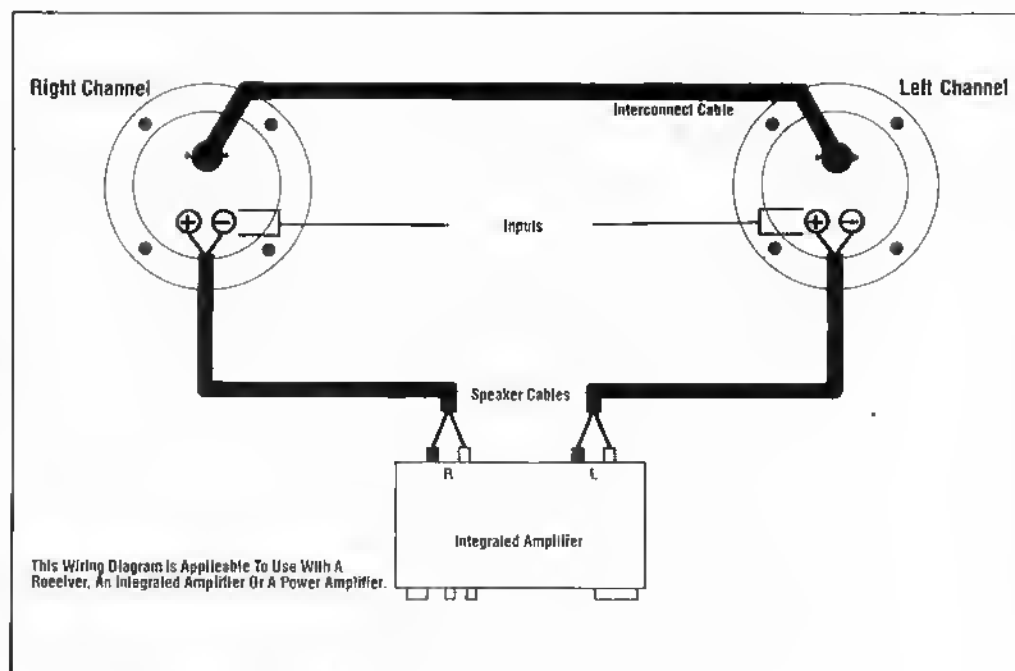

FIGURE 2. Connections to Amplifier
8. Locate the amplifier outputs. They will be marked red and black. Red corresponds to + (plus) and black corresponds to - (minus). Using whatever speaker cable you have (see the section on 'Speaker Hookup Wire'), connect the left channel amplifier outputs to the left speaker, making certain to connect the red or + (plus) output to the red terminal on the speaker. Connect the black or - (minus) amplifier output to the black terminal on the speaker. Using another length of speaker cable, connect the right channel amplifier outputs to the right speaker in the same way. **BOTH SPEAKERS MUST BE CONNECTED IN CORRECT ABSOLUTE PHASE FOR PROPER OPERATION.** (i.e. red (+) to red (+) speaker to amplifier connections etc). See Fig. 2 to check your connections.